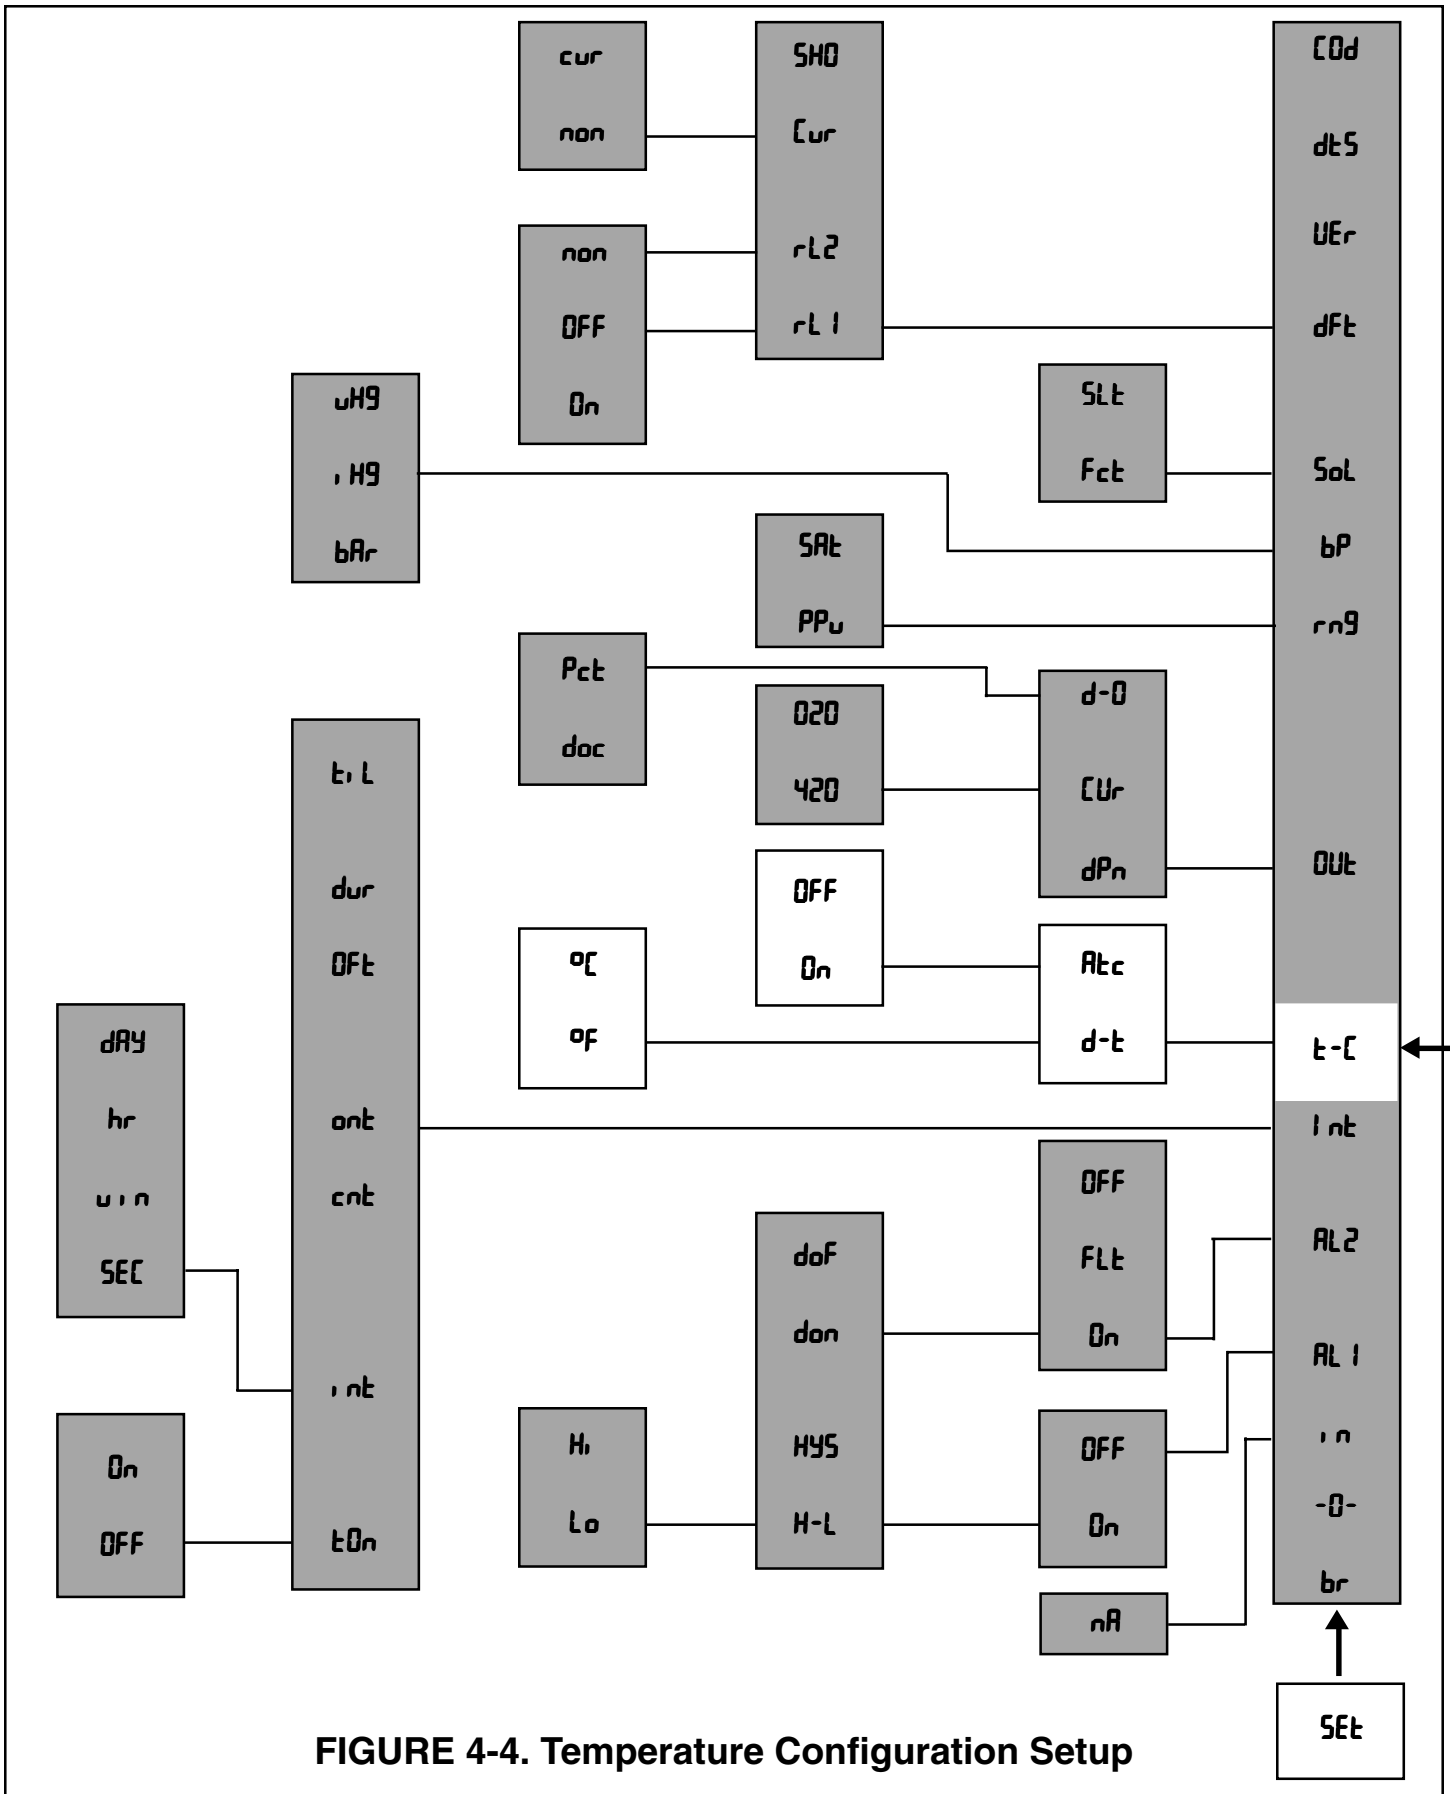

FIGURE 4-4. Temperature Configuration Setup
4.4.1 Temperature Setup (t-t). Refer to Figure 4-4.